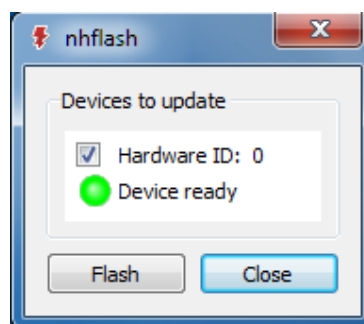

Figure 3: The Firmware Update Utility NHFlash is ready to start the update.
4. Start `nhflash.exe` from the start menu or the `daisy` directory. After some time, the LED should become green and the text "Hardware ID: 0" (or similar) should be displayed (see Figure 3).